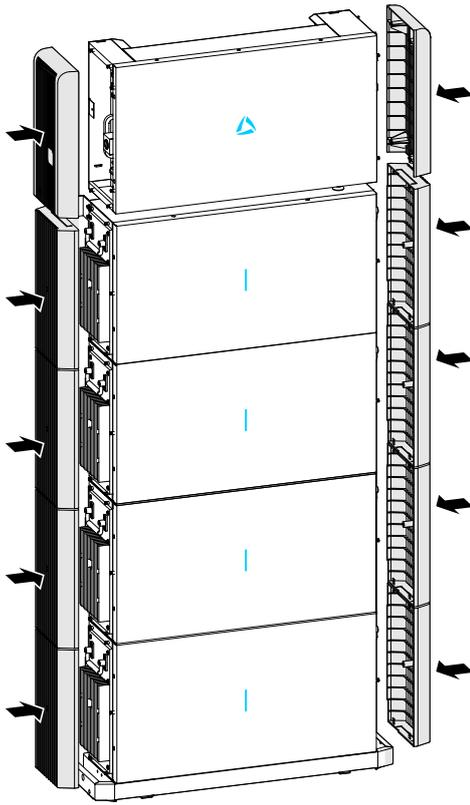

Figure3-49 Fix the wiring cover plate
Step 2 Fix the side cover plates, as shown in Figure3-49.